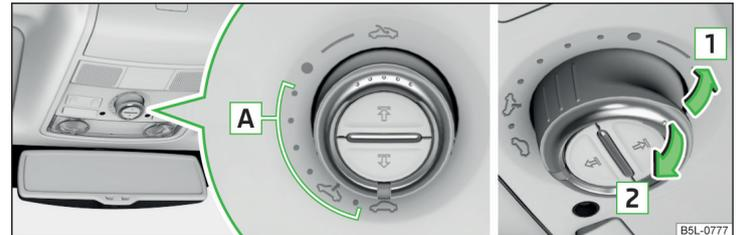

Fig. 43 Operation of the sliding/tilting roof
Operation of the sliding / tilting roof » Fig. 43
The sliding/tilting roof is fitted with a force limiter. The sliding/tilting roof stops and moves back several centimetres when it cannot be closed because there is something in the way (e.g. ice). The sliding / tilting roof can be fully closed without a force limiter by pulling on the recess in the switch in the arrow direction **[2]** » Fig. 43 until the sliding / tilting roof is fully closed .
- Set the switch to the position ☞ » Fig. 43 on page 61.